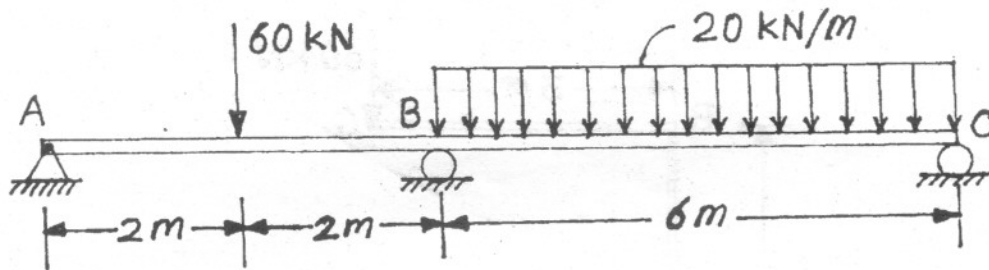

Fig. 5
- (b) Analyze the continuous beam loaded and supported as shown in Fig. 5 by Castigliano's second theorem. Draw S. F. and B. M. diagram. [8]
4. (a) Analyze the continuous beam loaded and supported as shown in Fig. 5 by theorem of three moment. Draw S. F. and B. M. diagram. [8]